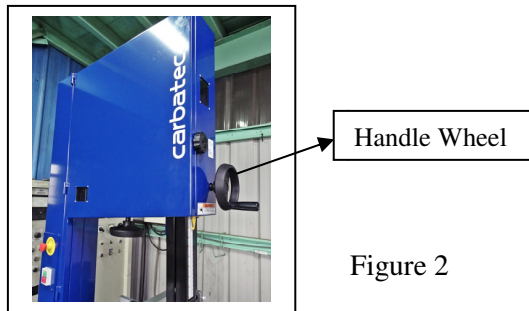

Figure 2
1. Attach the hand wheel (see Figure 2) to the machine.